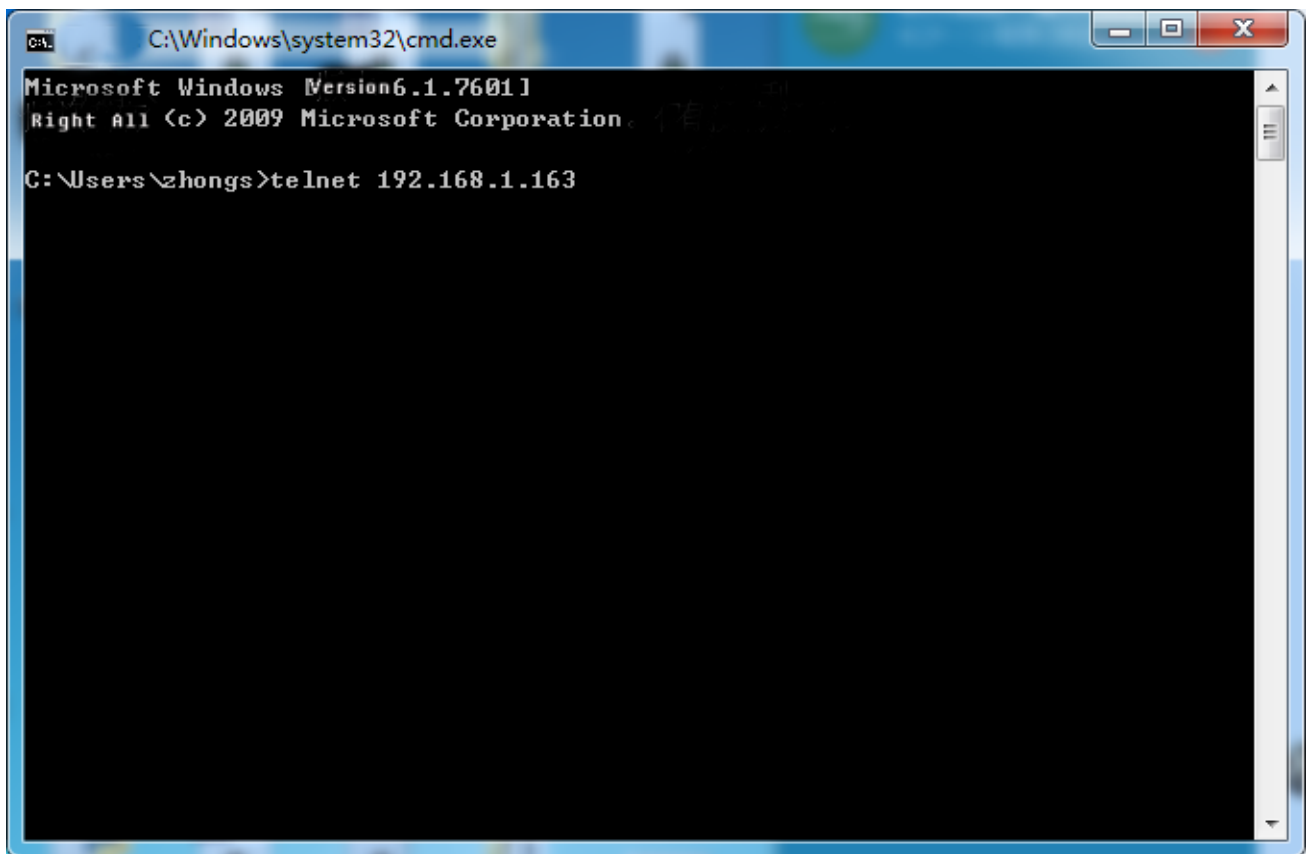

Figure 2-1
6.2.3.2 Enter the IP address as illustrated in figure 2-1